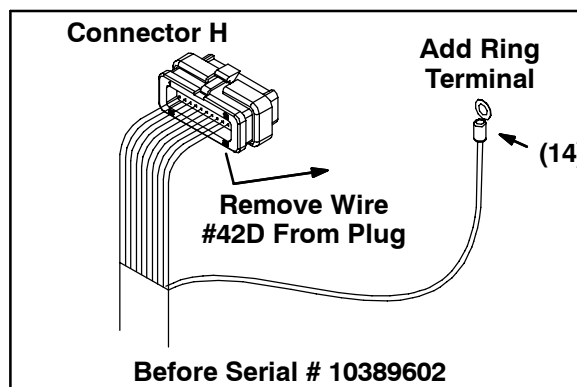

Fig. 1
3. Remove brown wire #42D from position #35 on connector (H) (Fig 1).
4. Cut off terminal from wire #42D and replace with ring terminal supplied in kit (Fig 1).